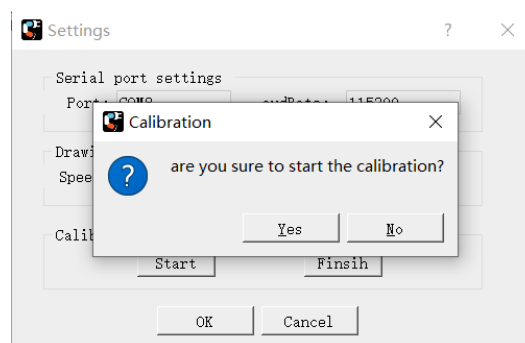

Figure A3 Start the Calibration procedure
- (4) Click the **Start** button under the Calibration section, and click **Yes** in the pop-up window to start the calibration, as shown in Figure A3.
- (5) Keep the Settings window open, switch the **COMMOND** page and switch the control mode to **ROBOT JOINT MODE**.